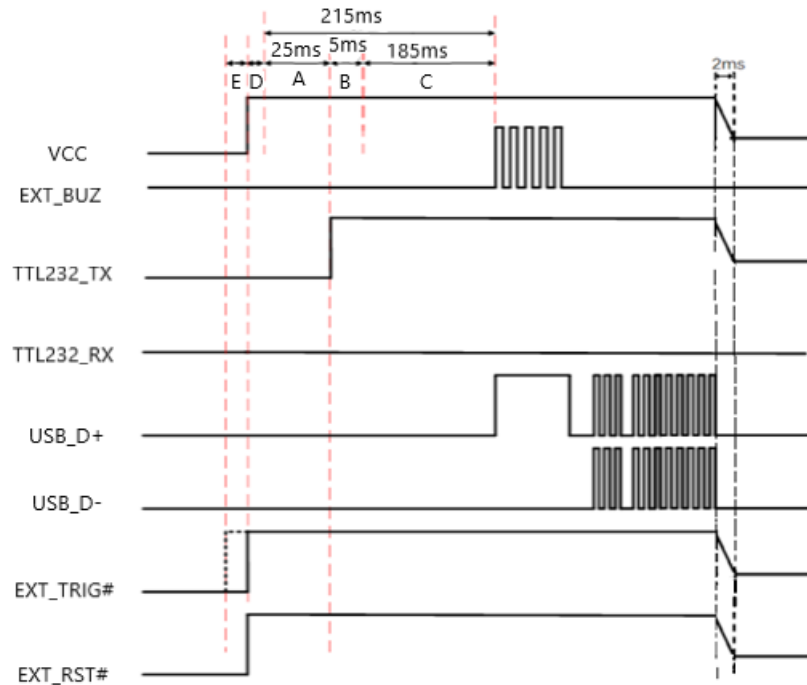

Figure 4-1
4. The N1-W has a 100k pull-up on the EXT\_TRIG# signal. During the period between power-on and bootloader execution, the user should not lower the EXT\_TRIG# signal. If EXT\_TRIG# signal is set high before power-on, it should meet the duration of E (E=0~1ms) as shown in Figure 4-1. Levels of other signals are kept low during power-on to prevent abnormal function.
When using the external IO port as a trigger output, note that high and low levels must meet the requirements provided in Table 4-4. It is recommended to use the default floating or default pull-up IO port as the trigger pin. If you can only use the default pull-down IO port as the trigger pin, refer to the power-on timing sequence in Figure 4-1. When not triggered, ensure that the pin meets the high level requirements in Table 4-4.